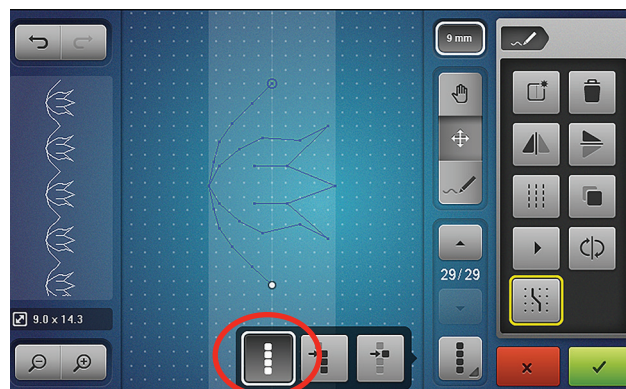

Fig. 31
9. Select Mirror Image Left/Right. Notice the wavy pattern in the Preview Bar on the left (Fig. 31).